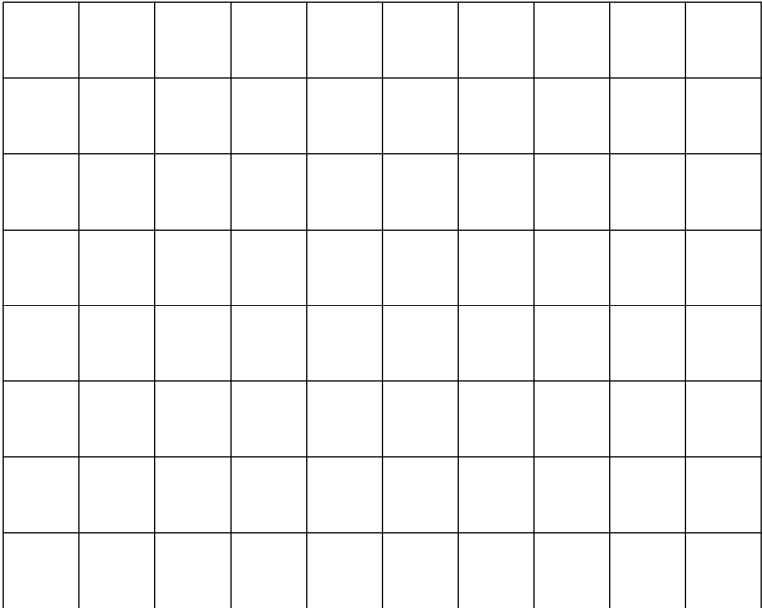

Fig. 16.3.11: Generation of damped oscillations
- Draw the signal waveform in the chart (Fig. 16.3.11).